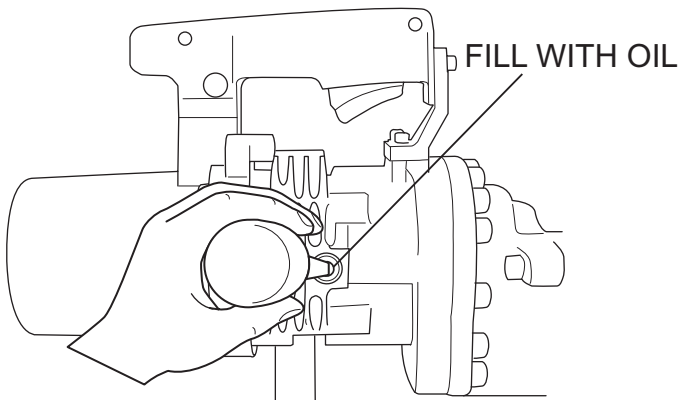

Figure 8. Oil Fill
2. Turn cutter so that the oil fill port is on the top side. Fill with oil until it overflows. See Figure 8. See Table 2 for oil type and quantity.